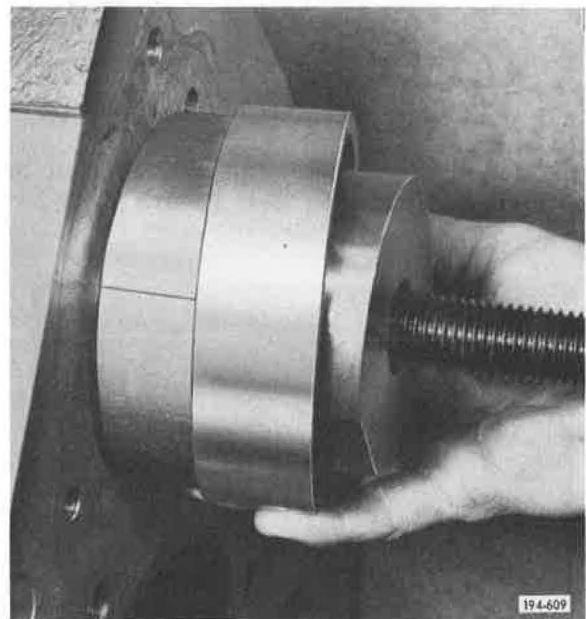

Figure 5-728. Installing Sleeve
17. Slide the sleeve over the assembly to secure the two clamping halves together. See Figure 5-728.